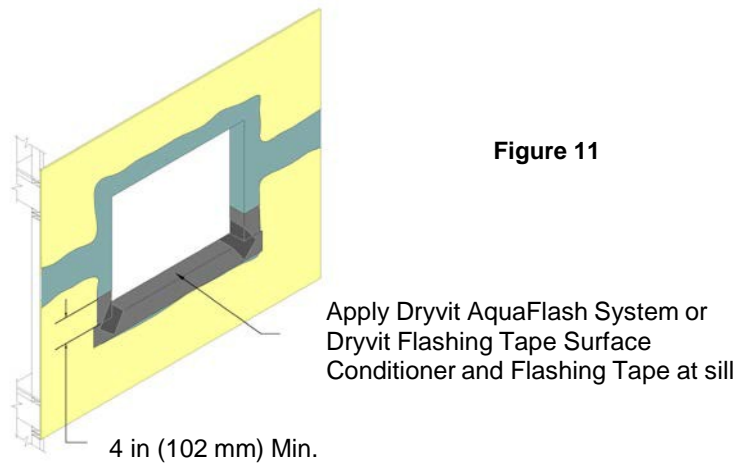

Figure 11
- 3) Apply Dryvit AquaFlash System or Flashing Tape at sill in accordance with Sections IV.A.3 and IV.C respectively. **NOTE: AquaFlash System or Flashing Tape must extend up the jambs a minimum of 4 in (102 mm) – Figure 11.**